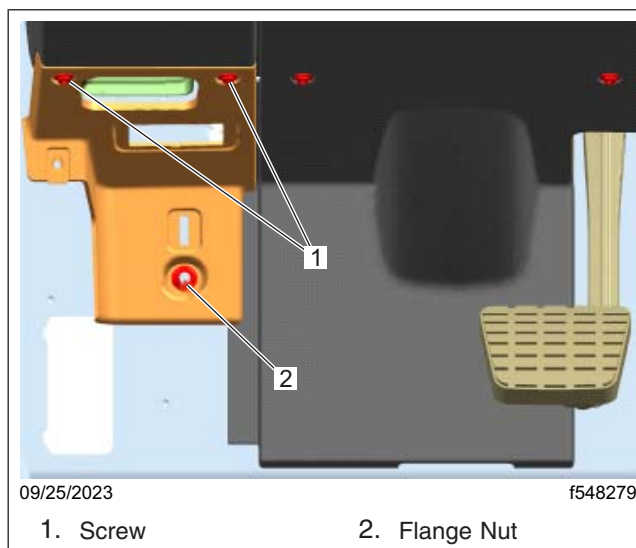

Fig. 7, Left-Hand Side Lower Dash Cover
- 4.2 Remove the two screws and flange nut from the left-hand side lower dash cover, then remove the cover. See Fig. 7.